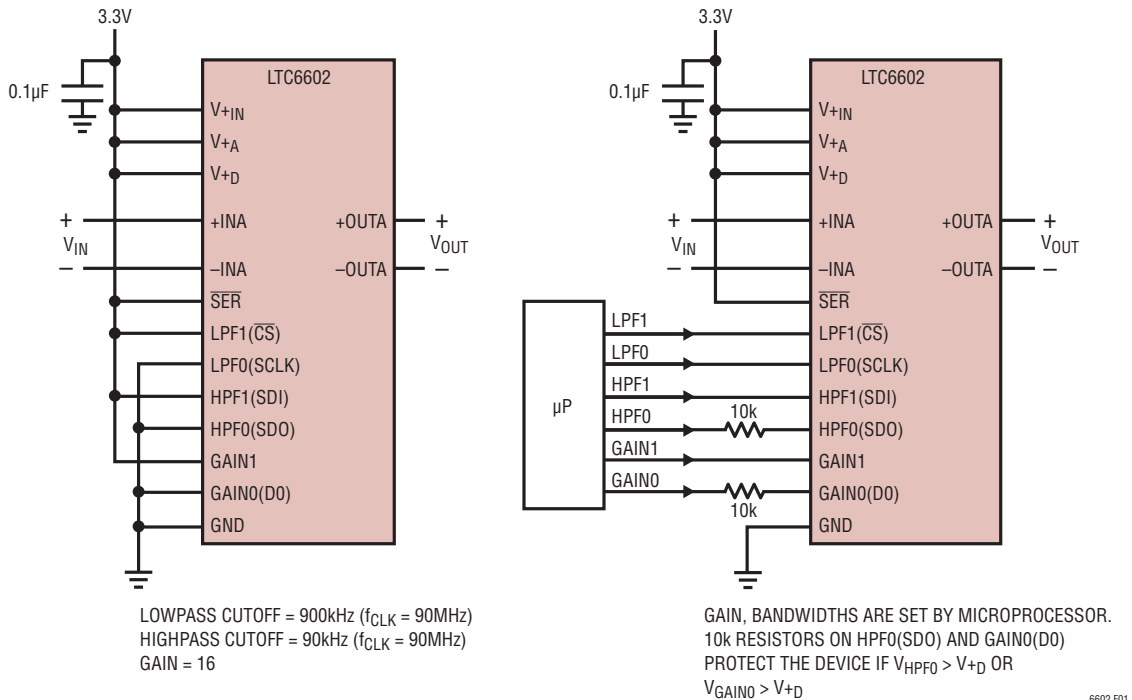
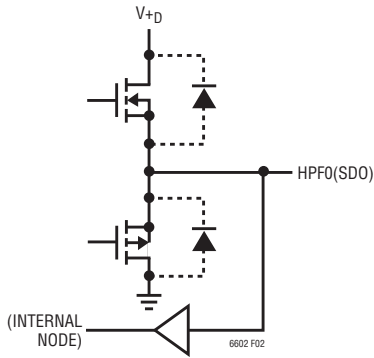

Figure 1. Filter in Pin Programmable Control Mode
Figure 2. Bidirectional Design of HPF0(SDO) and GAIN0(DO) Pins
As shown in Figure 1, connecting \overline{SER} to V_{+D} allows the filter to be directly controlled through the pin programmable control lines GAIN1, GAIN0, HPF1, HPF0, LPF1 and LPF0. The HPF0(SDO) and GAIN0(DO) pins are bidirectional (inputs in pin programmable control mode, outputs in serial mode). In pin programmable control mode, the voltages at HPF0(SDO) and GAIN0(DO) cannot exceed V_{+D} ; otherwise, large currents can be injected to V_{+D} through the internal diodes (see Figure 2). Connecting a 10k resistor at the HPF0(SDO) and GAIN0(DO) pins (see Figure 1) is recommended for current limiting, to less than 10mA. \overline{SER} has an internal pull-up to V_{+D} . None of the logic inputs have an internal pull-up or pull-down.